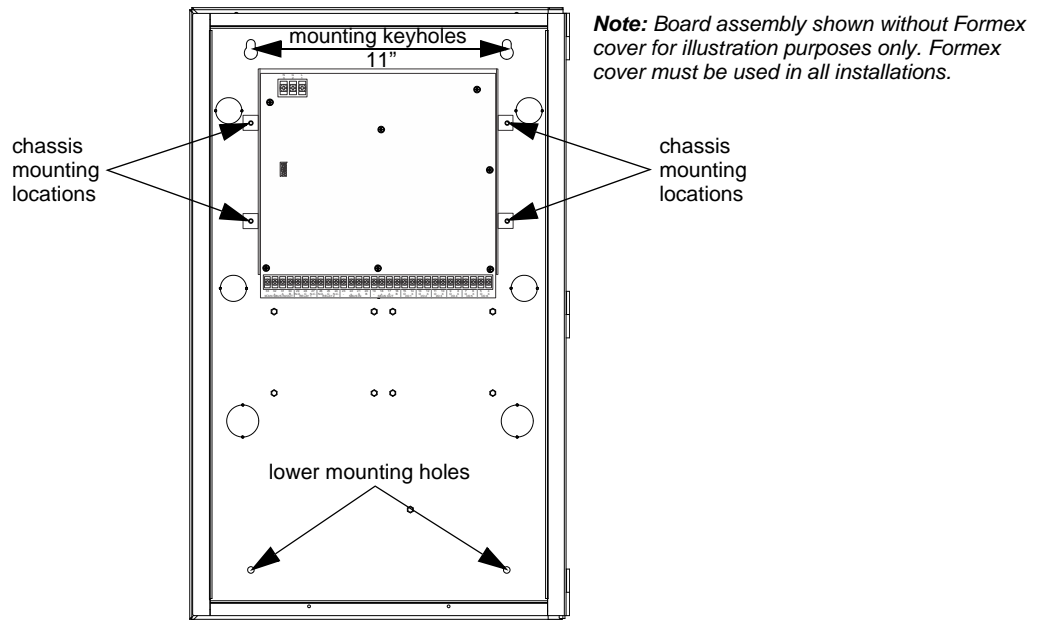

Figure 3.1 TR-RPS1 Cabinet Mounting
2. Remove the four nuts which secure the chassis to the cabinet. Refer to Figure 3.1 for mounting locations.